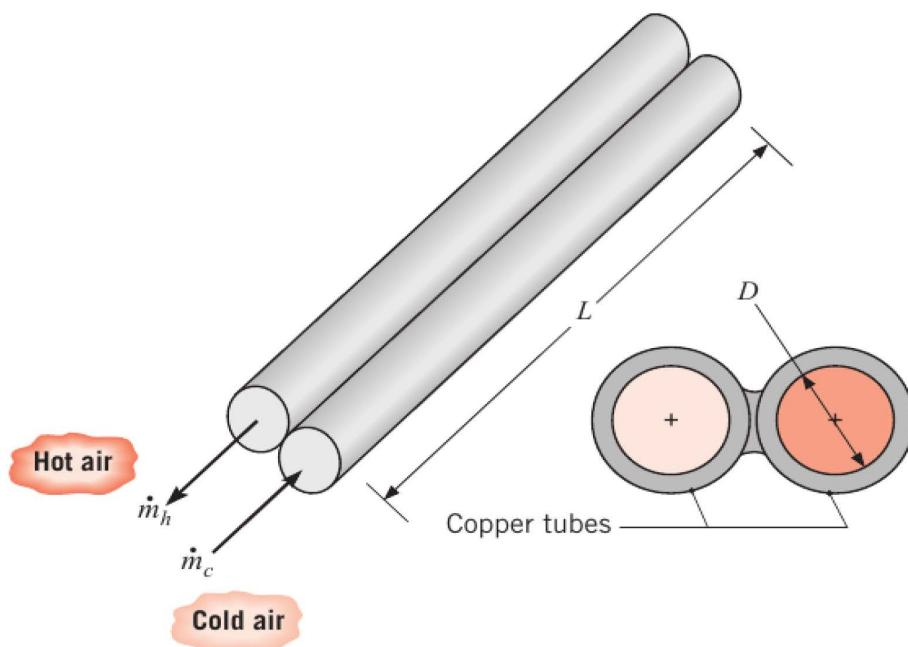

Figure 24: Twin-tube counterflow heat exchanger.
- a) A twin-tube counterflow heat exchanger (Fig. 24) operates with air flow rates of  $0.003 \text{ kg s}^{-1}$  for both hot and cold streams. The cold stream enters the heat exchanger at  $280 \text{ K}$  and must be heated to  $340 \text{ K}$  using hot air that enters the domain at  $360 \text{ K}$ . The average pressure of the airstreams is 1 atm and the maximum allowable pressure drop for the cold airstream is of 10 kPa. The tube walls may be assumed to act as fins, each with an efficiency of 100%.